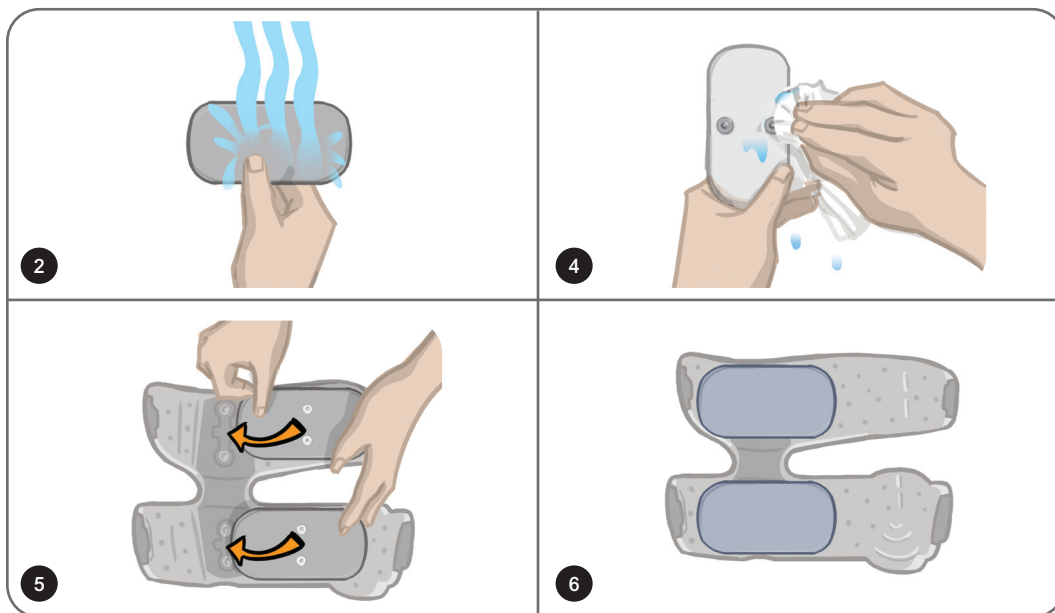

Figure 8-16: Fitting the Thigh Cloth Electrodes
**To fit the Thigh Cloth Electrodes: (See Figure 8-16)**